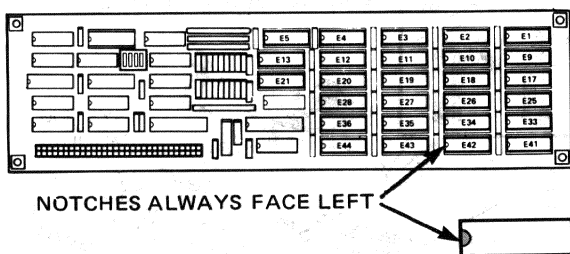
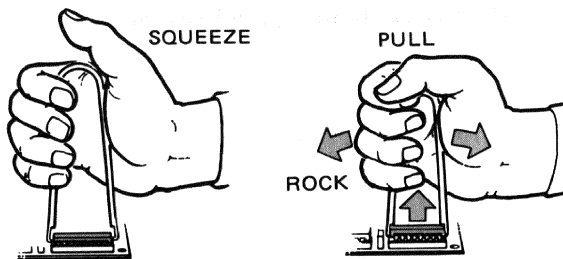

Figure B-10 Chip-to-Board Orientation
Figure B-11 Chip Removal
B.2.2.4 If the Chip is in Backward – Place the memory board option in front of you as shown in Figure B-10. Locate the notch on the end of the chip. If the notch is facing the opposite direction than the others on the board, use your chip removal tool to remove the chip (Figure B-11); then reinsert it correctly. Check that all the other chips are inserted correctly.